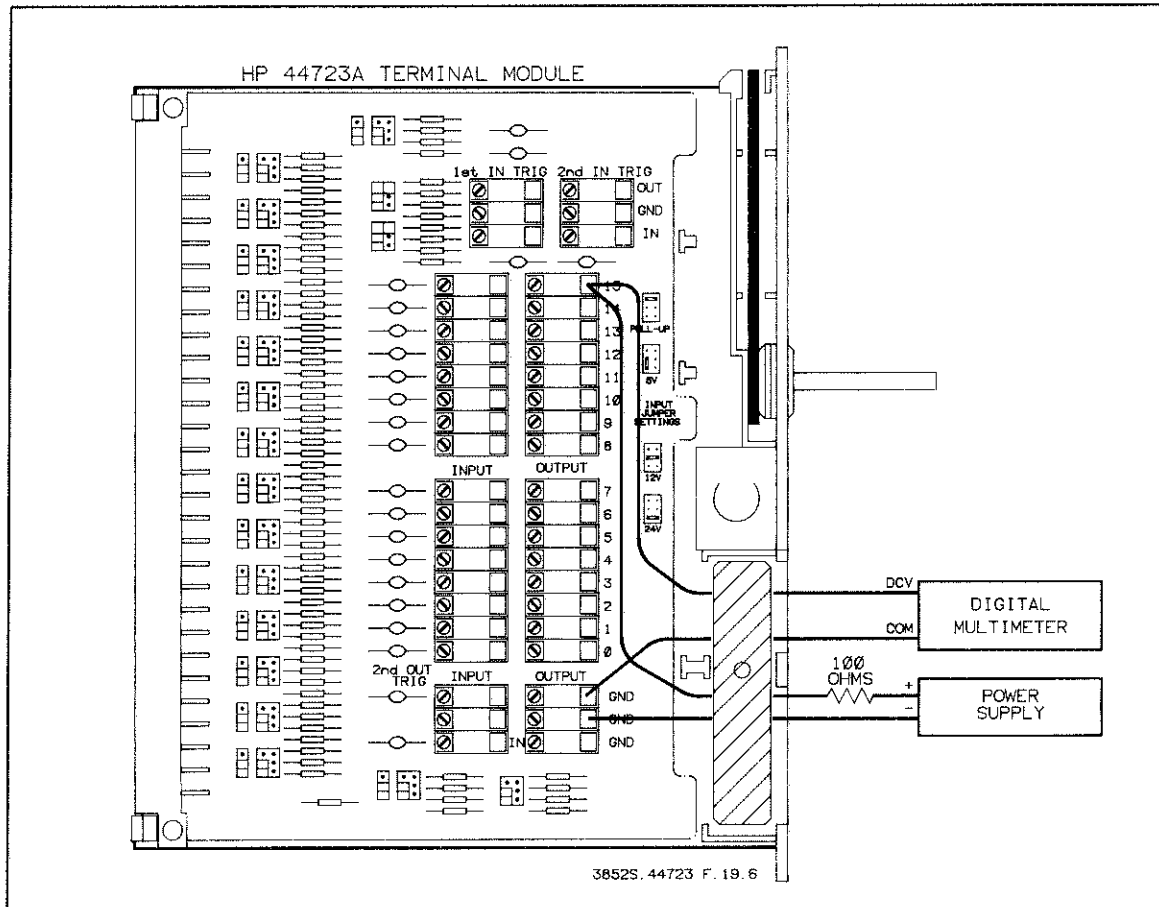

Figure 19-6 TTL Sink Current Test
11. Refer to Figure 19-6. Set a power supply to output +5 V. Connect the negative (-) output to GND on the terminal module. Connect the positive (+) output of the power supply to a 100  $\Omega$ , 1/4 W resistor.
12. Connect the other end of the resistor to the high output terminal of channel 15 on the terminal module. The setup is shown in Figure 19-6.